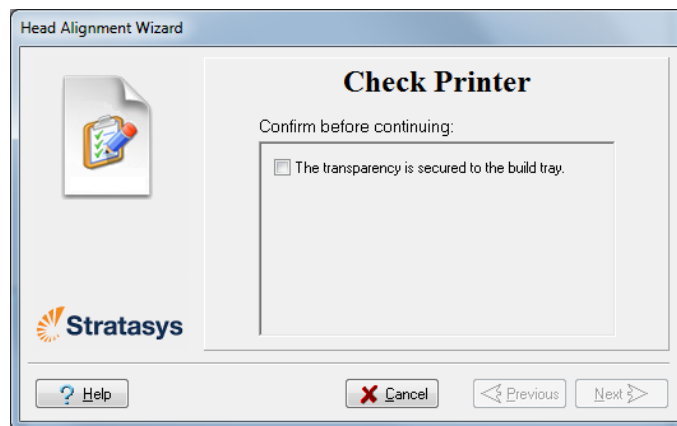

Figure 6-50 Head Alignment wizard—steps 7–9
9. In the wizard screen shown in Figure 6-50, select the *Transparency removed* check box, and click **Next**.